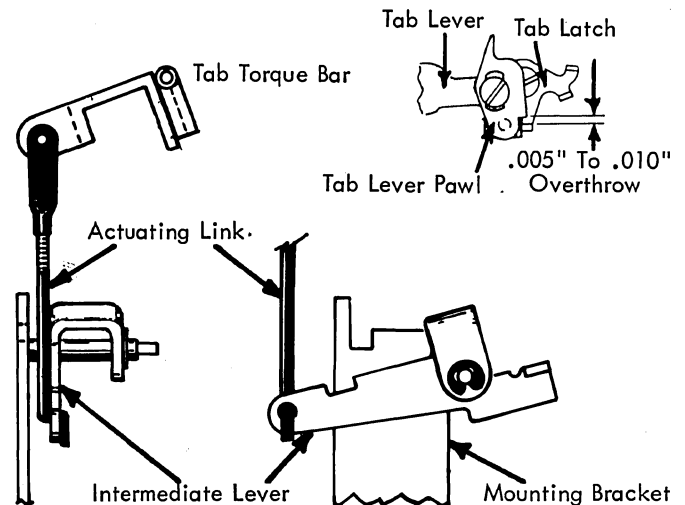

FIGURE 168. Actuating Link, Machine
10. Tab Lever Overthrow (Fig. 168) - With the tab cam on its high point, adjust the torque bar actuating link for $.005'' - .010''$ overthrow between the tab latch and tab lever.